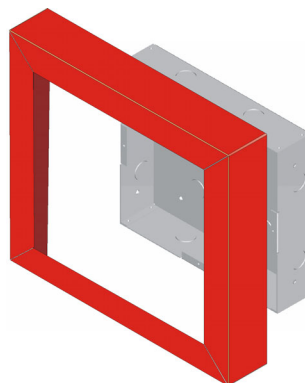

Figure 4.16 Installing the Trim Ring
4. Place the trim ring over the back box as shown in Figure 4.16.